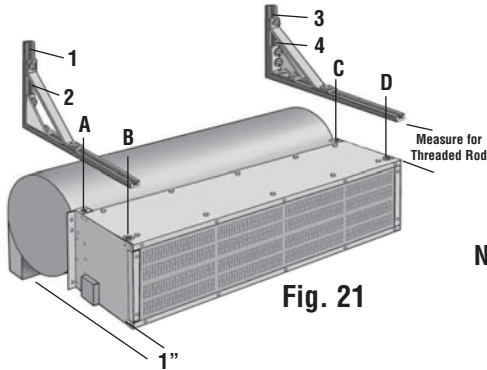

Fig. 21
1. With the air curtain temporarily in place (1" above the top of the doorway opening and centered), temporarily place the wall brackets so they align with the top mounting holes **A, B, C & D** on the unit. Mark the mounting holes **1, 2, 3 & 4** on the wall. (See Fig. 21) Then measure the distance from the bottom of the brackets to the top of the unit. This measurement will be used to cut the threaded rods.